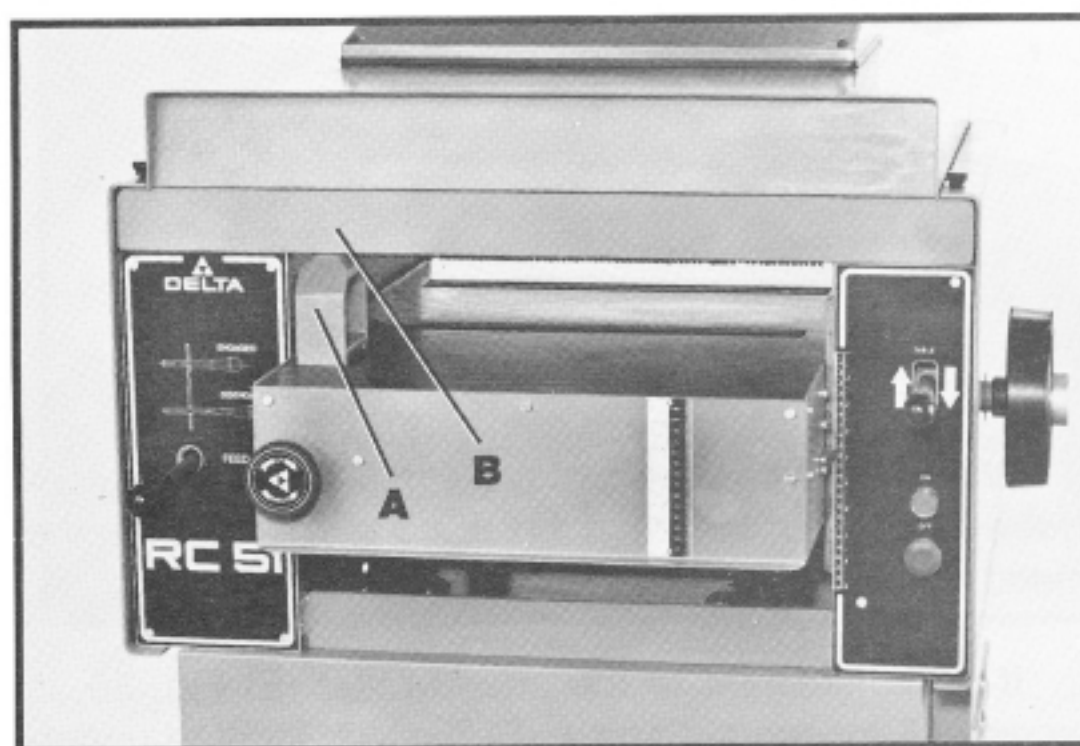

Fig. 40
2. Place gage block (A) Fig. 40, on table directly under front edge of head casting (B) as shown. Raise the table until gage block (A) just touches lower edge of head casting (B).